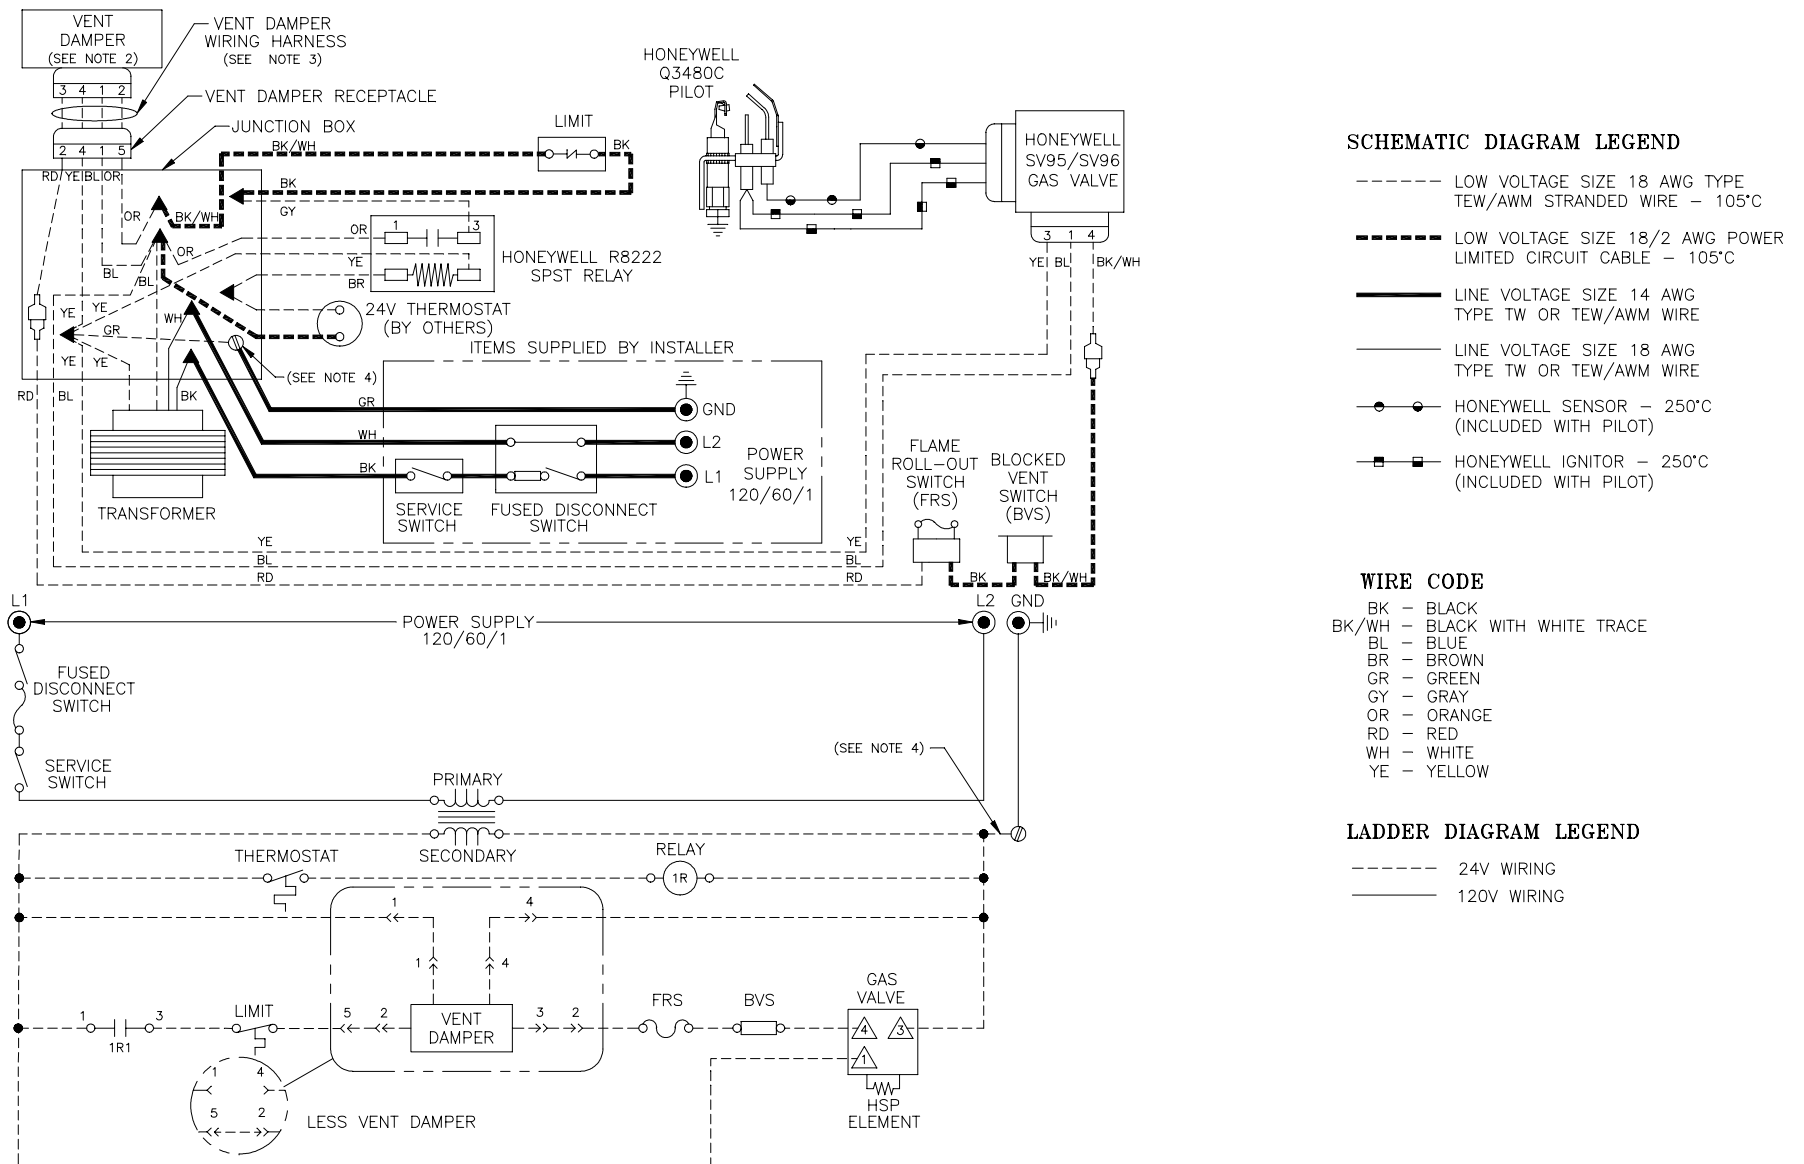

Figure 46: Wiring Diagrams, Water, Intermittent Ignition (HSP), Gravity Circulation
S. Water Boiler with Intermittent Ignition (HSP) and Gravity Circulation. See Figure 46.